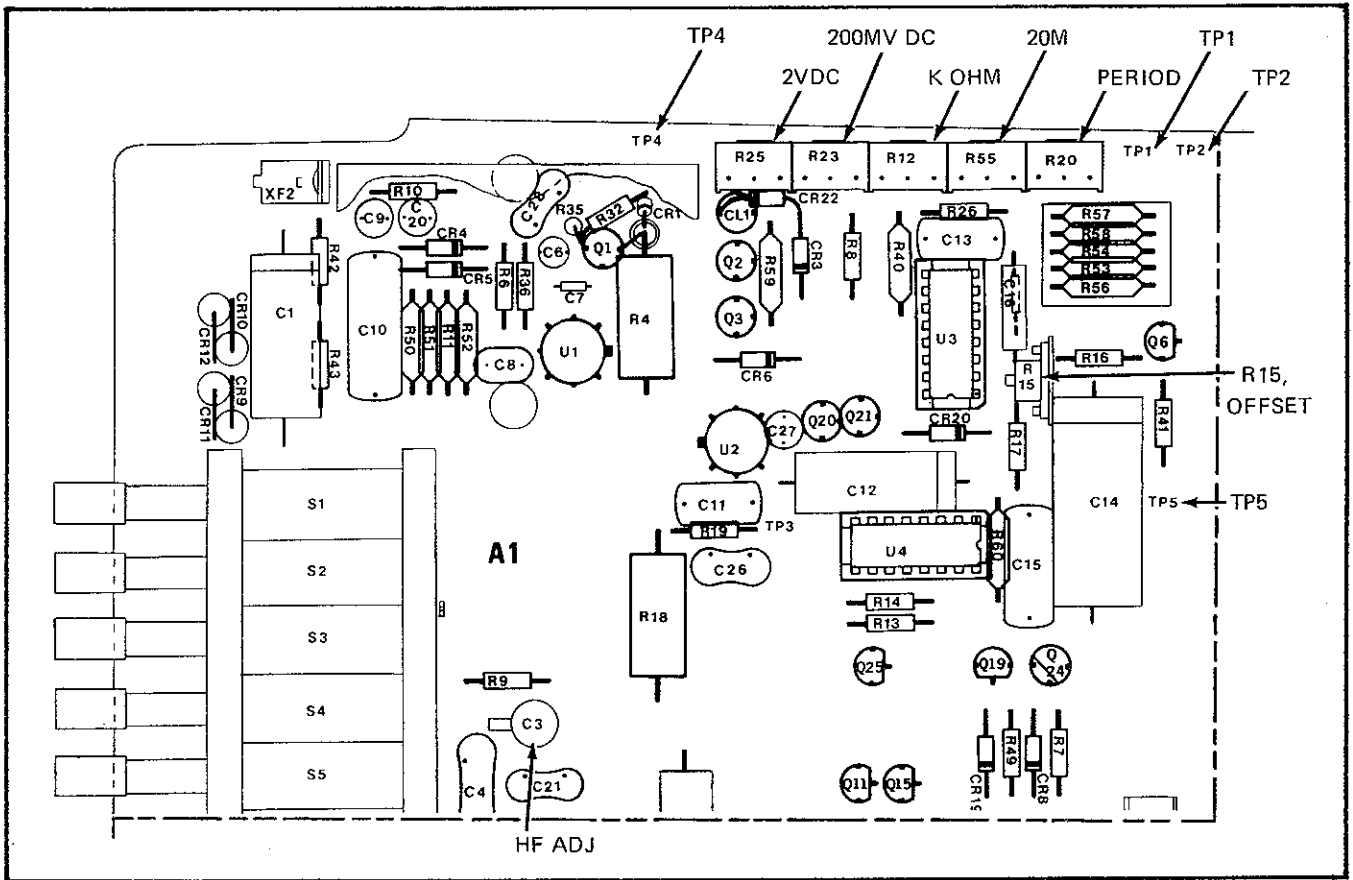

Figure 4-1. ADJUSTMENT AND TEST POINT LOCATIONS
- Connect the frequency counter between TP5 and TP4 (common) as shown in Figure 4-1.
- Using an appropriate adjusting tool, adjust R20 (Period), shown in Figure 4-1, for a time period of 100 ms \pm 5 μ s. Variations of the time period should be \leq \pm 15 μ s.
- Adjust R25 (see Figure 4-1) for a readout of +190.0.
4-32. The 8000A range adjustments are accomplished in accordance with the instructions given in Table 4-3. Perform each adjustment and/or check in the order listed. The shaded areas of the table separate the adjustments from the checks. Refer to Figure 4-1 for the location of the specified adjustment. The following test equipment from Table 4-1 is used to provide the input specified for each function.